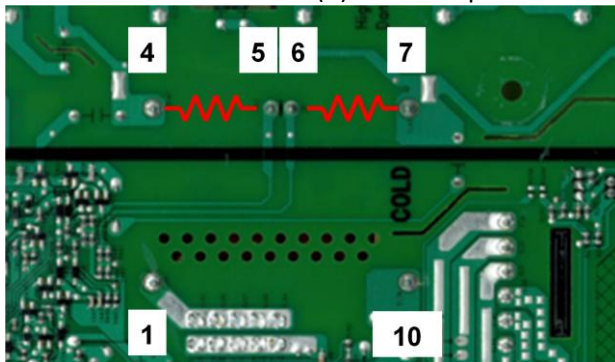

Fig.2 Pins Location
a. Measure the resistance (R) between pin 4 and 5 of T701 (Fig.2). If measured R is > 1 kohm = Not OK.
b. Measure the resistance (R) between pin 6 and 7 of T701 (Fig.2). If measured R is > 1 kohm = Not OK.
Measure the resistance (R) between pin 4 and 5 of T701 (Fig.2). If measured R is < 1 kohm = OK.
Measure the resistance (R) between pin 6 and 7 of T701 (Fig.2). If measured R is < 1 kohm = OK.